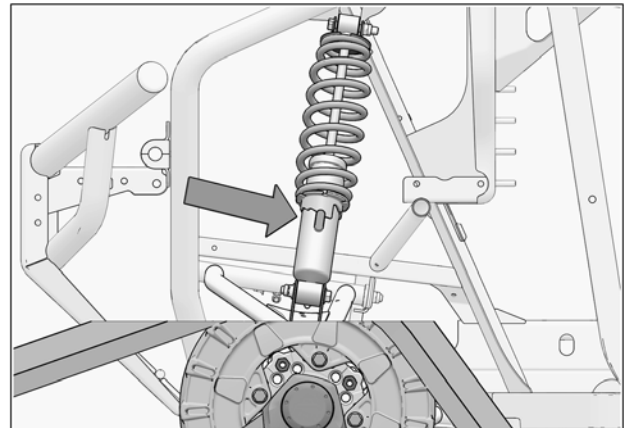

Fig. 24
2. Verify the suspension settings. If the shock absorbers are adjustable, adjust them to the stiffest setting to allow for maximum clearance between the System and the vehicle's fenders. See Fig. 24